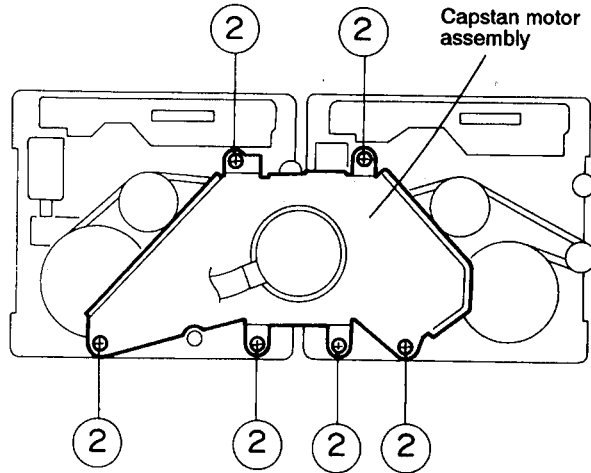

Fig.5-28
1. Remove the six screws ② retaining the capstan motor assembly (See Fig. 5-28).
2. While raising the capstan motor, remove the capstan belts A and B respectively from the motor pulley (See Figs. 5-28,5-29)